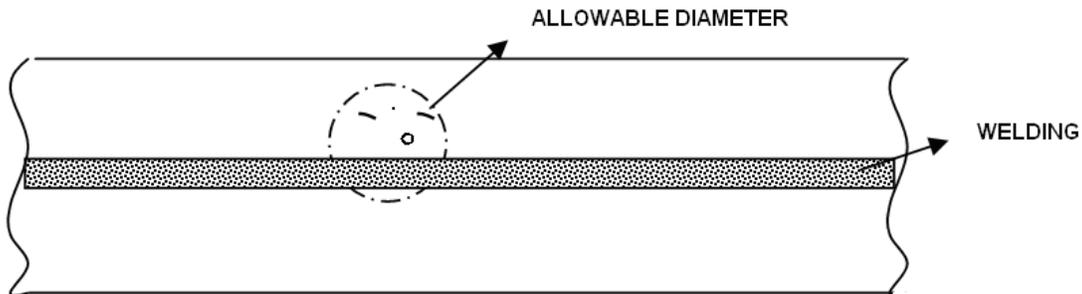

Figure 28-4 Damage Classification
The maximum length (L) or diameter (D) of damage or leakage points is 0.2". A maximum of three damages or leakage points are allowed within a 2" radius circle centered at one of the damage or leakage points, and the three points are not in a line (as shown in the Figure 28-4).